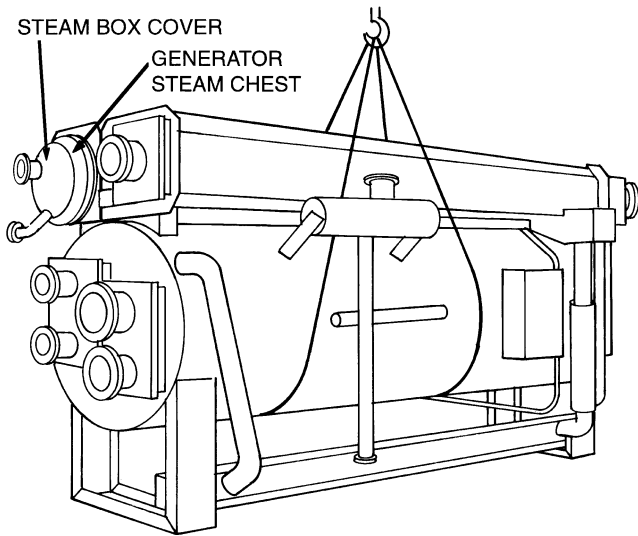

Fig. 5 — Rigging One-Piece Units
1. Make sure connections to the steam box cover (see Fig. 5 and 6) allow for removal of the cover for maintenance.
2. Install pipe hangers where needed. Make sure no weight or stress is placed on the steam chest cover (see Fig. 5 and 6), nozzle, or on the condensate drain connection.